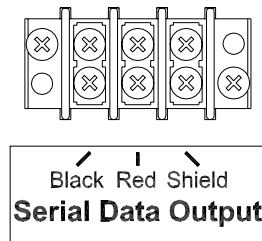

Figure 15 Serial Data Output Wiring Diagram
3. Connect the cable to the terminal block labeled **Serial Data Output** on the junction chassis according to figure 15.